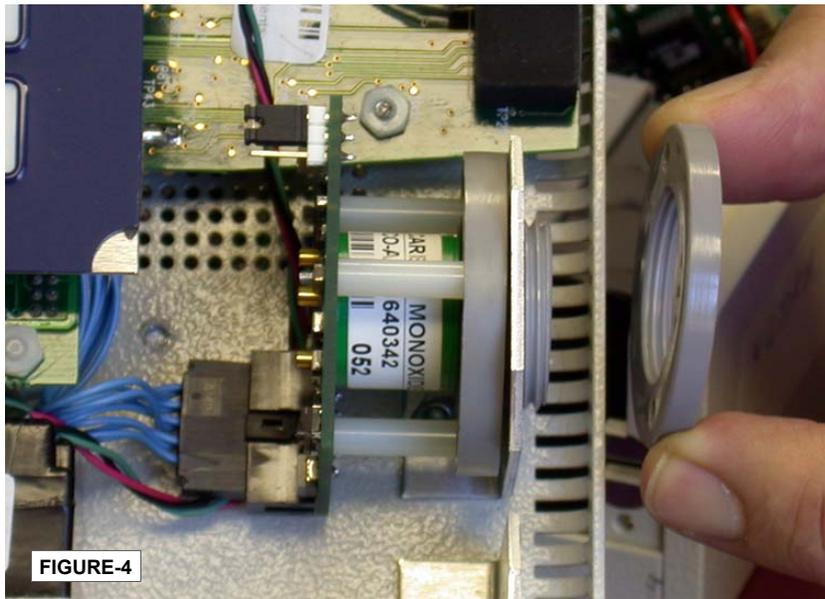

FIGURE-4
- 4) Remove the gray plastic securing nut. Gently insert the sensor module through the opening in one of the two aluminum mounting brackets and thread on the gray plastic nut. **Align the module so the zero and span potentiometers are facing upwards for easier service access.** Do not over tighten the nut. Refer to figure-4 photo. Typically if only one extra sensor is required, it is installed in the upper bracket position.